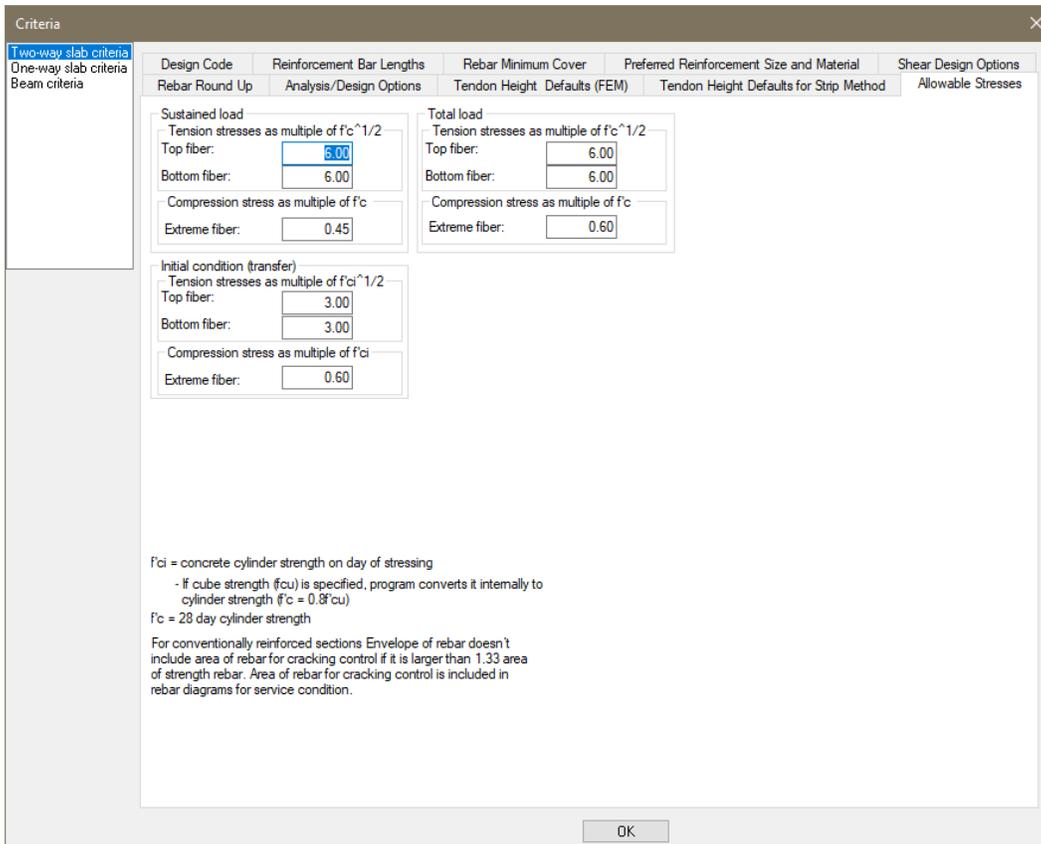

Figure 8-4
- Click on the *Allowable Stresses* tab. This will open the window from **FIGURE 8-4**.